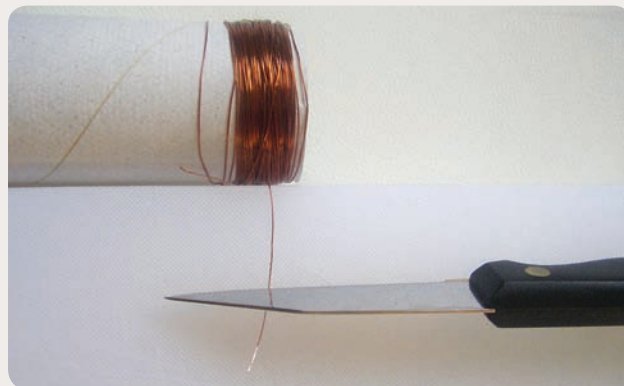

Figure C1.56
step 1: Wrap 10 m of enamelled magnet wire around the cardboard cylinder to make a small coil. Leave about 10 cm of wire free from each end to act as contacts. Use adhesive tape to hold the contacts and the coils in place. Use a small knife to carefully scrape the enamel coating from the last 5 cm of each contact, as shown in Figure C1.56.